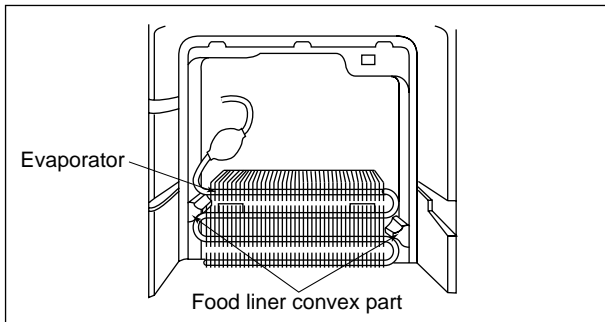
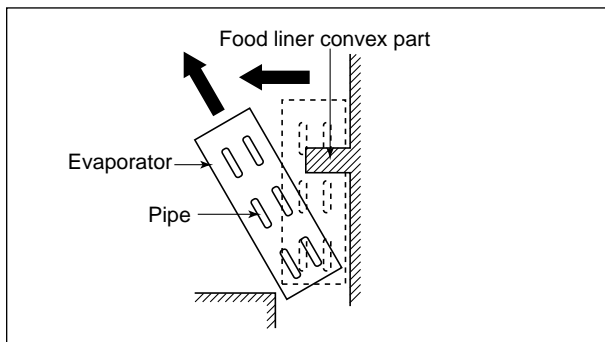

Fig. A-22
Fig. A-23
1. Take out F-louver ass'y (Fig. A-22).
2. As shown in Fig. A-23, pull the upper part of Evaporator toward you, pull it diagonally so that the pipe of Evaporator does not contact the convex part of food liner.
1. Install Evaporator as shown in Fig. A-22 in the reverse order of Fig. A-23.